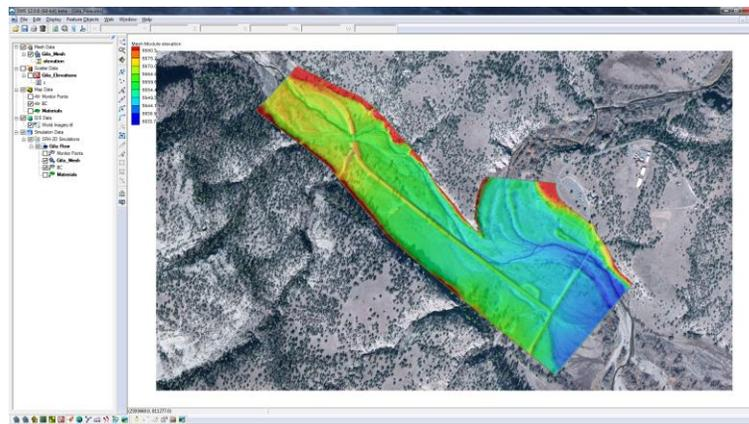

Figure 1 Gila\_Flow.sms project
4. Click **Open** to import the project file and close the *Open* dialog. The Graphics Window will appear as in Figure 1.